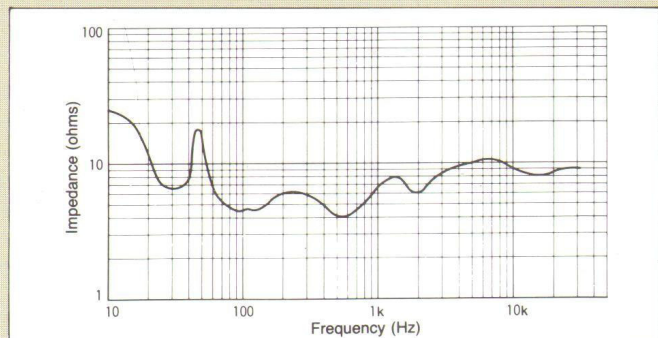

Fig. 1 Impedance curve example (JBL 4345 with rated impedance 8 ohms)
The power supplied into the speaker load is defined as the product of voltage at the output terminals (V) and current (I), expressed as  $W = V \times I$ . The voltage can be measured quite easily with a voltmeter, but it is very difficult to determine the current. For this reason, conventional power meters are based on the assumption that the nominal speaker impedance is the load R, calculating current as  $I = V / R$ . Inserting this into the above equation for power yields  $W = V^2 / R$ . However, as is evident from the example shown in Fig. 1, actual speaker impedance is a complex factor that varies considerably with frequency. The peaks and dips in the impedance curve of course cause the current supplied into the load to fluctuate. Measuring only the voltage at the output therefore is not sufficient to obtain true power readings.